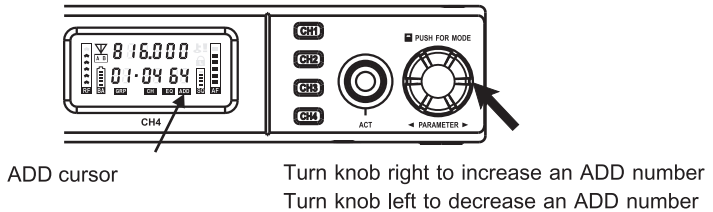

Fig. 20
- (1) Press knob to EQ cursor. EQ cursor blinks to denote it is ready to accept parameter changes.
- (2) Turn knob right to increase or left to decrease a number.
- (3) First digit F and 0 will be displayed during knob turning. F denotes anti-feedback feature is activated. 0 denotes anti-feedback feature is not activated.
- (4) Preset EQs enable usage of the same microphone capsule for different equalization to suit artists' preferences and stages.
- (5) EQ will automatically be set to EQ-09 when interfaced with a PC computer. Receiver will transfer the 32 parameters to EQ-09 from PC computer.
(E) PC ADDRESS Setting. Fig. 20: